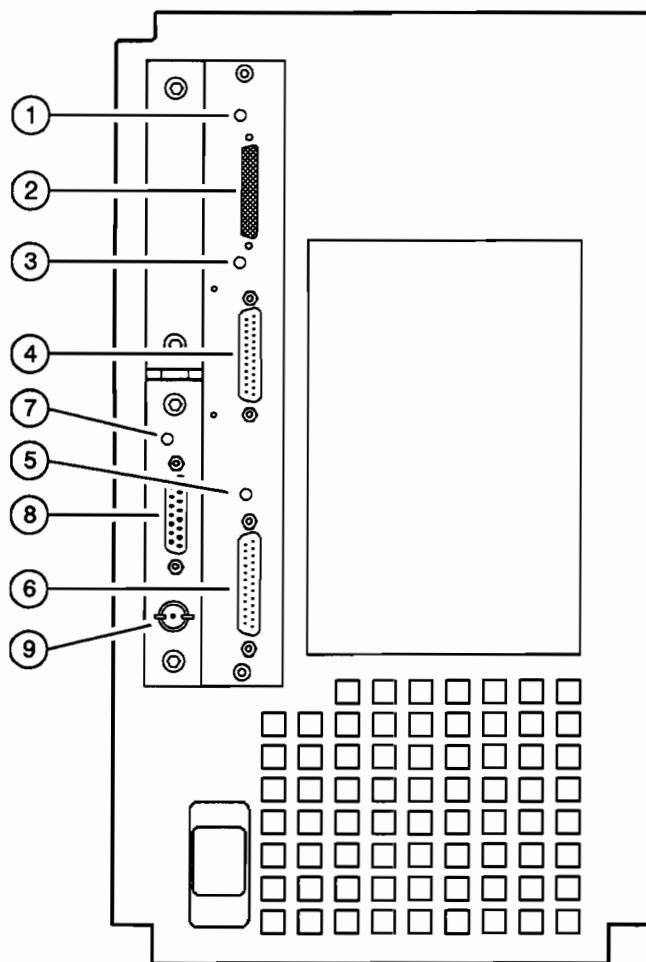

Figure 10-6. HP 9000 817S, and 837S Rear Panel
- Figure 10-6 shows the HP 9000 817S, and 837S.
Figure 10-6 shows the HP 9000 817S, and 837S, while figure 10-6 shows the HP 9000 827S, 847S, 857S, 867S, and 877S. The connectors and lights are the same for these computers. Number 1 is the SCSI Self Test light. This light should normally be off. Number 2 is the external SCSI connector. Number 3 is the Term Power light. This light should normally be on. Number 4 is the parallel connector. Number 5 is the MUX Status light. This light should normally be off. Number 6 is the connector to the active distribution panel.